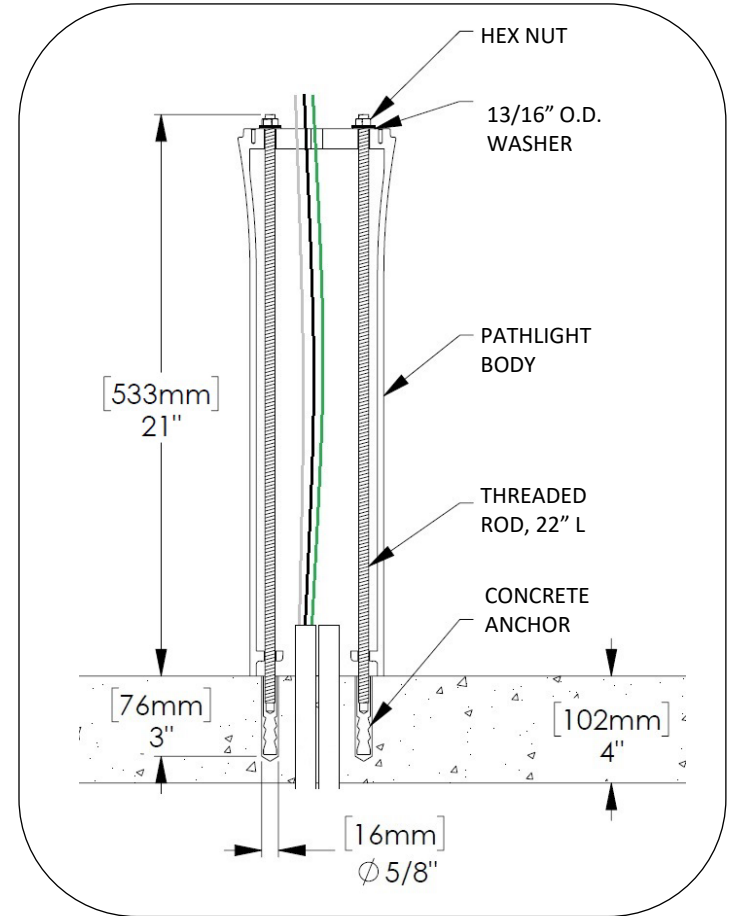

FIG. 5 – INSTALL ANCHORS
11. Install 22in threaded rods into concrete grip anchors. See Fig. 5.
12. Install pathlight body over threaded rods. Install washers and nuts to secure body in position, pulling line-in wiring up through body. See Fig. 5.